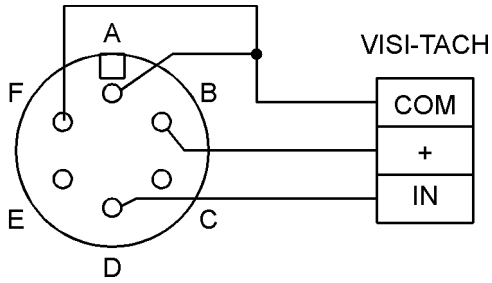

Figure 12. 711 Series Encoder Connections
3. Using the connector wiring diagram (Figure 12) connect the pickup to the VISITACH as shown on page 2.